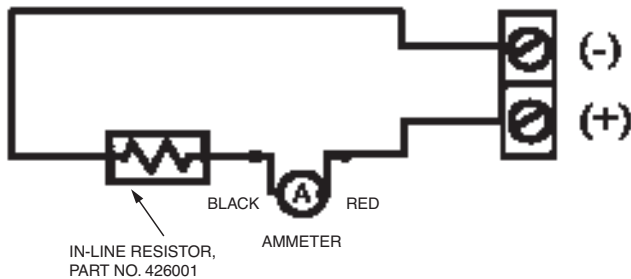

FIGURE 12
3. Connect an ammeter in place of the CV-98 actuator. See Figure 12. Make certain the ammeter is capable of measuring 1.5 amp @ 24 VDC.